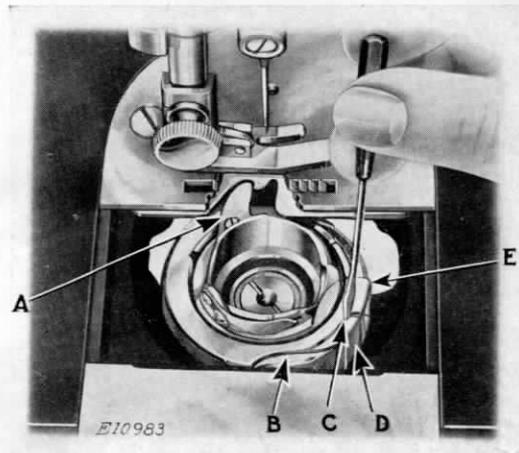

FIG. 35. BOBBIN CASE IN POSITION
(SEE FIG. 35)
The bobbin case may be easily removed from the machine without taking off the throat plate, although for the purpose of illustration the throat plate and feed dog are shown broken away in Fig. 35.
Remove the bobbin from the bobbin case. Turn the balance wheel over toward you until the end of the hook ring (E) is toward the front of the machine, as shown in Fig. 35. Insert the blade of the small tension screwdriver No. 120378, which is furnished with the machine, into the slot (C) between the ring and the edge of the spring, as shown in Fig. 35. With a downward pressure, turn the screwdriver one half turn to the right so that the screwdriver will drop into the slot and unlock the spring. With the right hand hold the balance wheel to prevent its turning, and with the left place the screwdriver against the edge of the slot in the ring and push it around in a direction opposite to the hook rotation until the circular cut-out (B) is opposite the spring (D). The ring and bobbin case may then be lifted out.
in the position plate under the feed dog as shown in Fig. 35. Turn the bobbin case back and forth slightly to make sure that it is properly seated, then place the hook ring (E) in position with the cut-out (B) opposite the spring (D). Press the ring into place and turn it in the direction of hook rotation until the spring locks it in position. Then replace the bobbin.